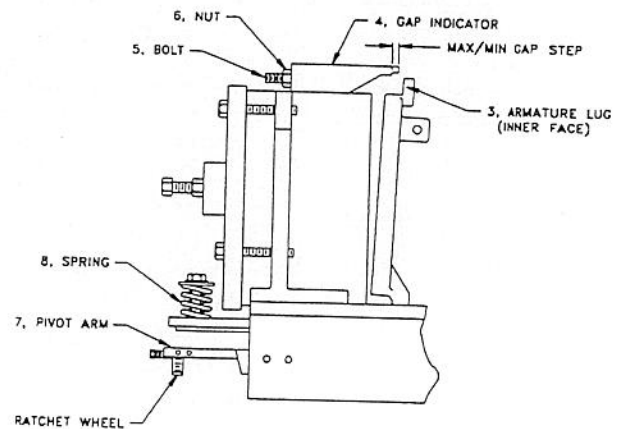

Figure 6. Magnet Gap Adjustment
After mounting the brake, loosen the manual release mechanism by loosening the nut (Figure 6, item 6) on the bolt (5), and swing it to normal position over the back of the magnet. Check the position of the released armature on the gap indicator (4). Magnet gap is correct when the inner face of the armature lug (3) is between the maximum and minimum gap step on the gap indicator (4).
Equal clearances between the shoes and wheel are automatically maintained by controlled sliding of the pivot arm (Figure 6, item 7). A spring (8) provides frictional restraint that is overcome as the brake sets, resulting in shoe centering relative to the wheel.